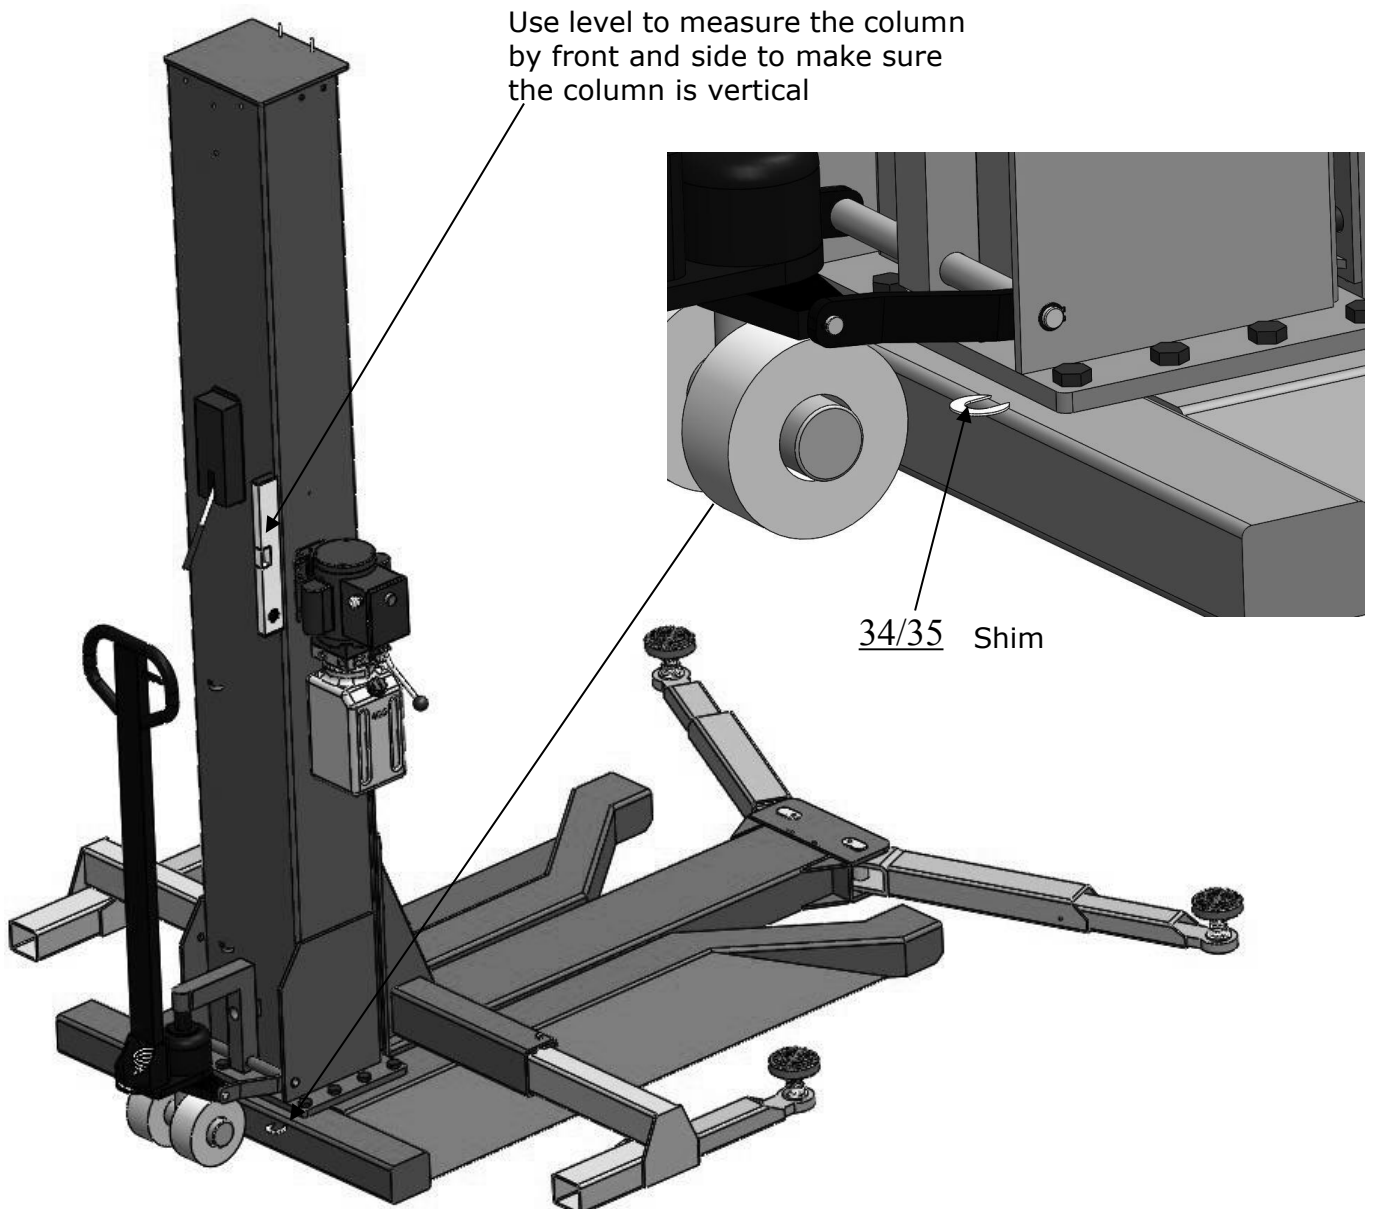

Fig.23
L. Using level to measure and adjust the column to be vertical (Fig.23).